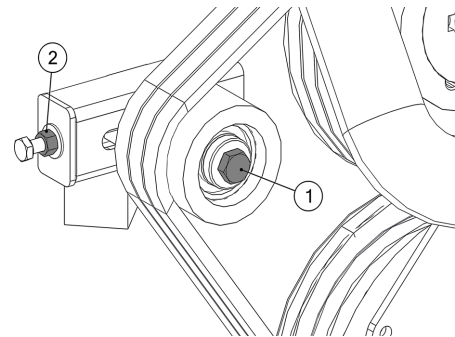

Figure 23 - Tensioner Pulley Assembly
2. Use a 19 mm spanner to loosen the bolt in the centre of the tensioner pulley until the pulley is able to slide with minimal wobble (Figure 23, Item 1).
3. Turn the nut on the end of the tensioner pulley slider until the correct belt tension is achieved (Figure 23, Item 2). (Refer to Section 6.11 "V- Belt Tensioning Procedure" on page 44.)